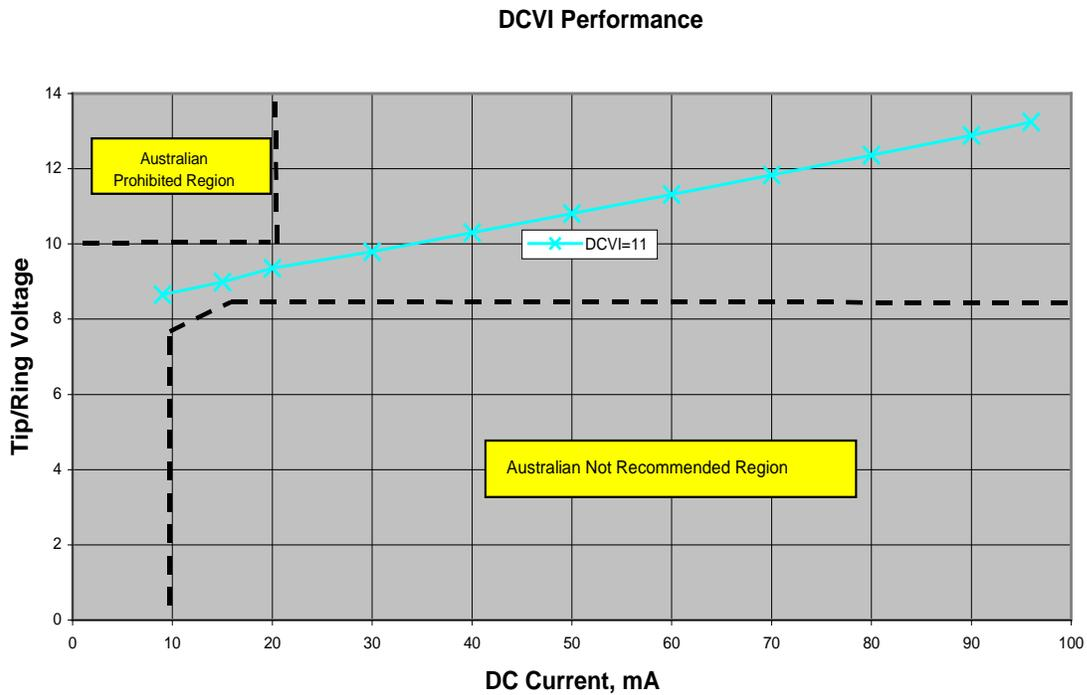

Figure 3: DCVI(1:0) = 11 Setting with the Australian Hold State Template
5. To go off hook, set the OFH and ENDC bits in Register 0x12[7:6]. Optionally the ENAC bit (Register 0x12[5]) can be set at the same time, or it can be set separately to use the “seize” mode as required for Australia (Figure 3). This puts the network connection into a mode where the DC voltage is lower than what is set by the DCVI bits and is used for the first ~300 ms before the ENAC bit is set. After the ENAC bit is set, the line goes to the “hold” state and reverts to the normal DCVI mode selected by the DCVI bits (Figures 1 and 2). After entering the hold state, ENNOM bit (Register 0x12[0]) should be set to allow the operation of the line detectors (UVDT, OVDT, and OI DT) and shift the DC circuit to circuit to the low bandwidth state. At this point, the line voltage and current detectors can be enabled by setting the ENDT bit (Register 0x12[1]).